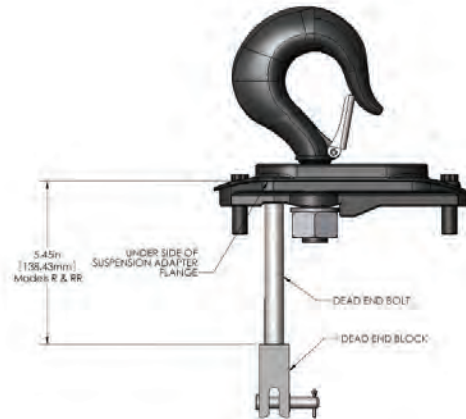

Figure 7. Hook Suspension
Remove the hook suspension, (2) suspension screws, (1) dead end pin, (1) washer, and (1) cotter pin from the packaging. It should be noted that the suspension includes a dead end bolt and block for supporting the dead end of the load chain as shown in Figure 7. If not previously assembled, assemble the dead end bolt and block through the suspension adapter as shown in Figure 7.
Check the position of the pin hole in the dead end block to make sure it has not been disturbed from its factory setting. The distance from the top of the pin hole to the bottom of the hoist should not exceed 1/4" (6.35mm) for Models E,E-2, H, H-2 and 7/16" (11.11mm) for Models R, R-2, RR, RR-2. If the distance is not correct, adjust the position of the dead end block to obtain the proper distance (see fig. 7)